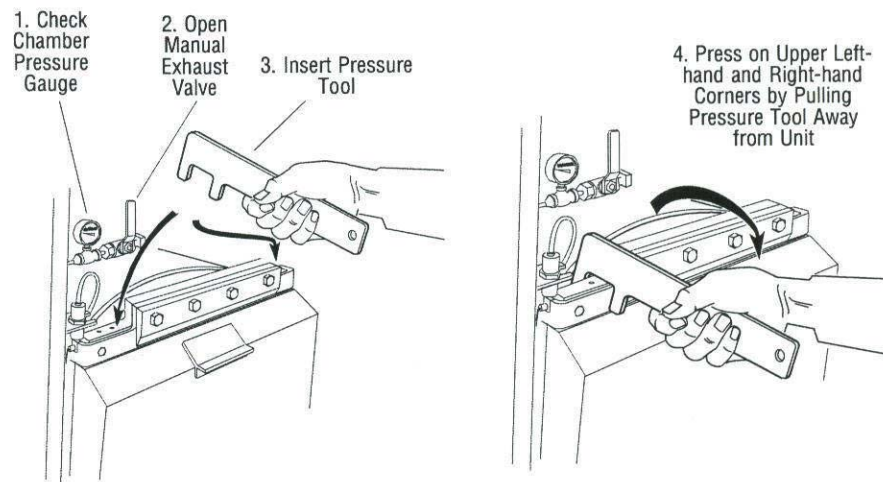

Figure 4-8. Emergency Door Operation
1. Open front cabinet panel. Open manual exhaust valve to exhaust remaining steam from the chamber (see Figure 4-8). Leave valve open during emergency procedure.
2. Using pressure tool provided, press on upper left hand and right hand corners of chamber door as shown in figure 4-8. Door should give inward slightly, indicating seal has been compressed into groove.